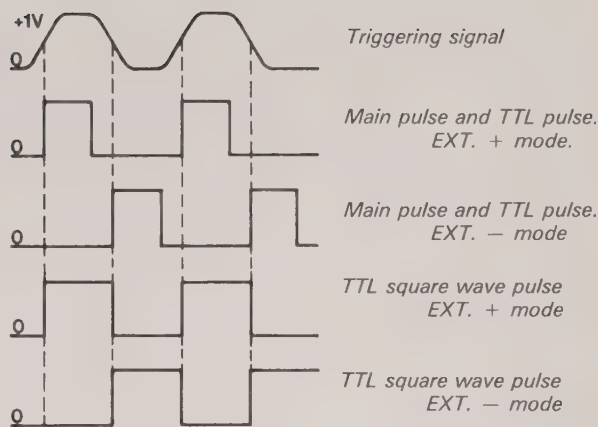

Fig. 6.7. External triggering.
- Select triggering at positive or negative slope of signal by setting switch REPETITION TIME to EXT+ or EXT–. Set duration to 10 μs . Refer to fig. 6.7.
- Observe output pulses having same repetition time as the triggering signal but a pulse duration as set with the DURATION controls. Fig. 6.7.
- Observe an output signal similar to fig. 6.7. Repetition time is the same as for the triggering signal, but pulse duration is set with DURATION control.
- Note that repetition time and duration are determined by the triggering signal. Refer to fig. 6.7.